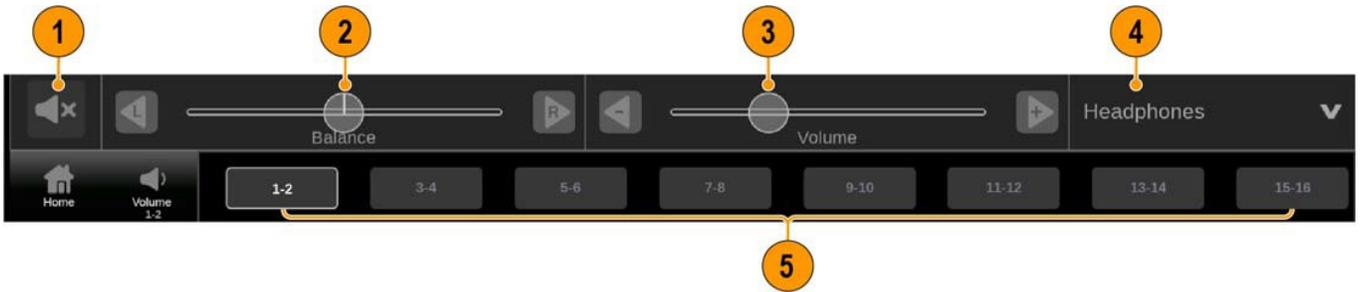

Figure 75: Mute, balance, volume, device, and source controls
1. Select the volume icon. (See Figure 75.)